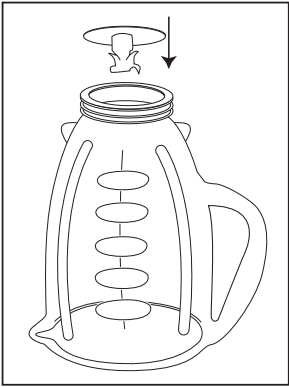

FIGURE 3
4. Place blade into jar. *(Figure 3)*